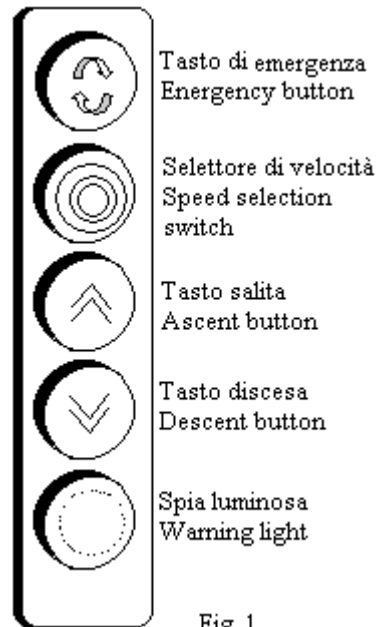

Fig. 1
- Turn the starter knob to position 1 (ON).
- Check that the green warning light, located at the bottom of the push button control unit, is on (Fig.1).
- Select the hoist operating speed using its speed selection switch (Fig. 1): there are 4 possible operating speeds. To increase the speed, turn the switch clockwise.